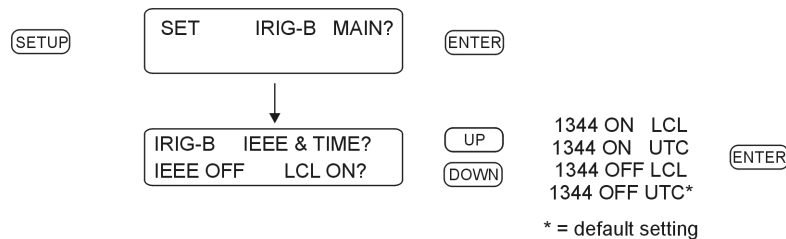

Figure 7.20: IRIG-B Configurations
In the Model 1094B, IRIG-B is an electronic time code, synchronized to the GPS, that is transmitted each second. The four choices are (1) setting the time zone to UTC or Local, and (2) having the IEEE-1344 extension turned ON or OFF. To transmit the IRIG-B time code in the UTC time zone, the time will be offset from your local time determined by your locale. IEEE-1344 extension increases the amount of information contained in the time code, including the two-digit date and time quality. To use the IEEE-1344, your receiving equipment (e.g. relays, RTU’s, etc.) must be designed to receive the IEEE-1344 time code. See Figure 7.20.